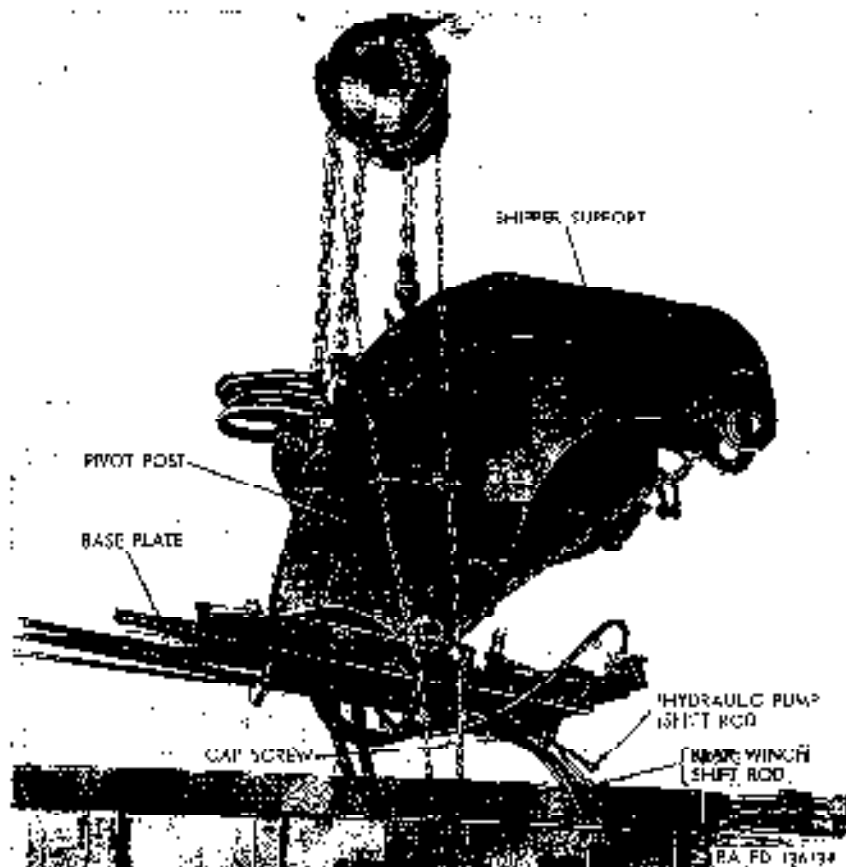

Figure 269. Removing base plate and pivot post assembly from crane body M82.
- (17) Place a chain under the operator's compartment and between the shipper support (fig. 269), and using overhead hoisting equipment, remove base plate and pivot post assembly from crane body.